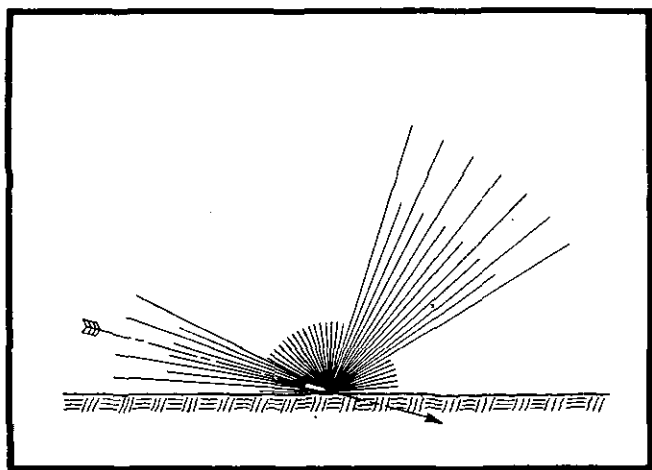

FIGURE 6.—Impact burst.
(1) *Superquick action.*—The superquick action is so sensitive that the shell detonates immediately on impact. Therefore, when striking armor plate, a gun shield, or a building, the shell will burst before it can penetrate. The superquick burst is effective against personnel in the open (fig. 6).